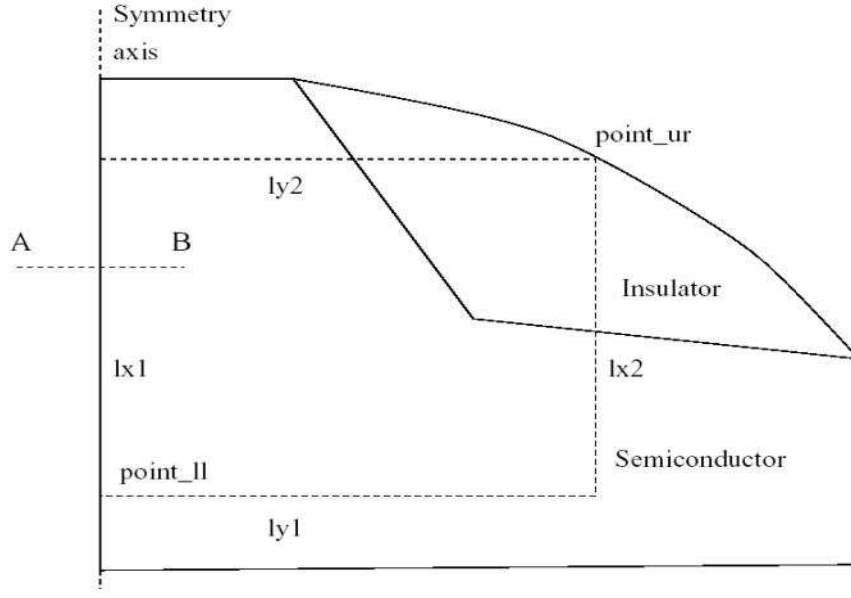

Figure 2.14: Schematics of the boundary condition for the wave equation.
- **point_ll** and **point_ur** are lower-left and upper-right points of the window within which the wave equation is solved (see also Fig. 2.14). This window
- **boundary_type** is the boundary types on the sides of the window. The boundary type is represented by four integers in the order (lx1, lx2, ly1, ly2). The corresponding boundary is indicated in Fig. 2.14. The integers can only take on values of 1, 2, 3 or 5. Type 1 is the zero intensity boundary condition, *i.e.*, the wave intensity must be zero at the boundary. This type is used when the boundary is far enough away from the optical mode. In the case where the boundary is a symmetric axis (lx1 in Fig. 2.14), a zero intensity boundary condition produces an optical mode of odd symmetry. Type 2 is the symmetrical boundary condition, *i.e.*, the boundary is an axis of symmetry for the wave function. In other words, the wave function at point A is the same as at point B in Fig. 2.14. Using this type on boundary lx1 in Fig. 2.14 results in an optical mode of even symmetry. In a one-dimensional simulation with semiconductor layers parallel to the x-direction, the optical mode has translational symmetry in the x-direction. Therefore, both lx1 and lx2 boundaries should be type 2 while ly1 and ly2 should be type 1. Type 3 is used to represent a truncated wave function that decays exponentially. This type of boundary may be useful in cases where the user wishes to save some mesh points by cutting a large portion of the device area out of the wave solution window. In such case, we may assume the wave decays exponentially at the boundary. This choice works together with the parameter **delta_index**. Please see parameter **delta_index**. Type 5 represents a boundary of perfectly matched layer (PML).